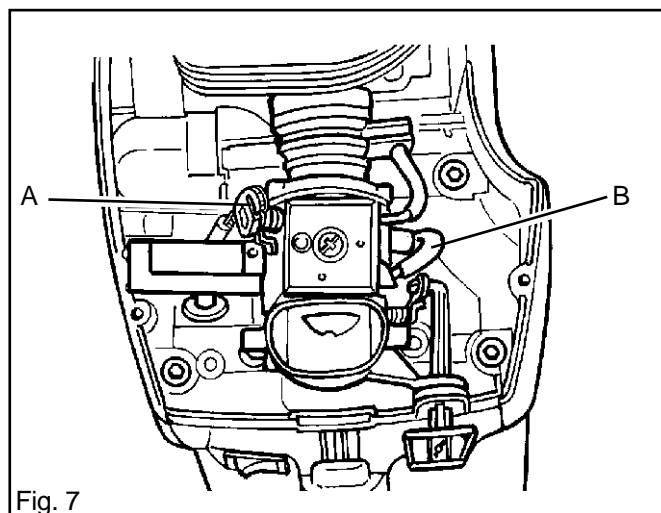

Fig. 7
11. Reconnect the fuel line (B) to the carburettor. See fig. 7.
12. Insert the throttle cable outer into its location and reconnect the throttle cable (A) to the carburettor. See fig. 7.